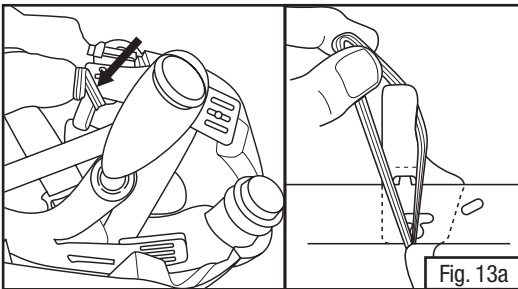

Fig. 13a
- With the visor frame in the down (closed) position, remove plastic faceseal tab from “T” attachment points on headband (Figs. 13a & b).
- Grasp elastic loop on faceseal and pull up over suspension headband and attach to the plastic tab (Fig. 13a).